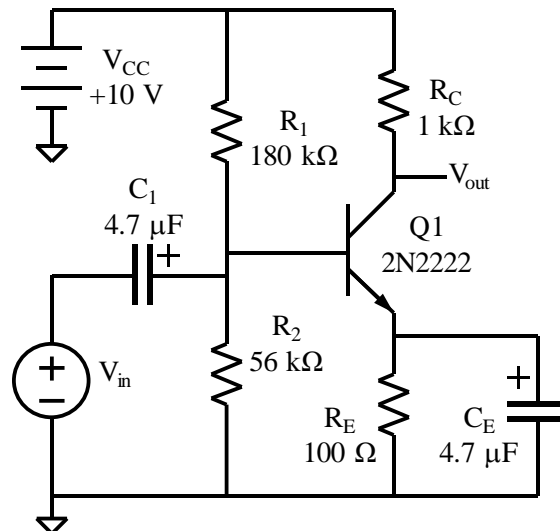

Fig. 3. Common-emitter amplifier with bypassed emitter resistor.
4. Consider the circuit in Fig. 3.
4. The measured phase shift between V_{out} and V_{in} for the CE amplifier with bypassed R_E (Fig. 3) is not the expected 180° . This is because the capacitor's impedance at 5 kHz *does not* approximate a short circuit well enough. By accounting for the capacitor's actual impedance in the theoretical gain calculation, the result will show a gain magnitude and phase shift closer to the measured values.
CE, bypassed R_E , Fig. 3
In the Fig. 3 circuit, a capacitor is added in parallel with R_E . If the capacitor is assumed to be a short circuit, then the resistor R_E is shorted out and Eq. 1 becomes